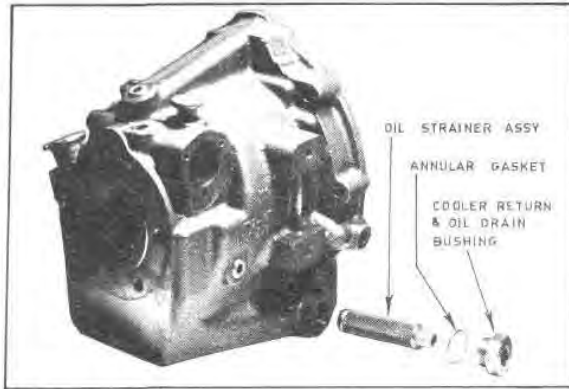

Fig G52 — Installation of Oil Strainer and Related Parts
9. Using the oil strainer assembly and associated parts in the order shown in Figure G52, assemble as follows :—